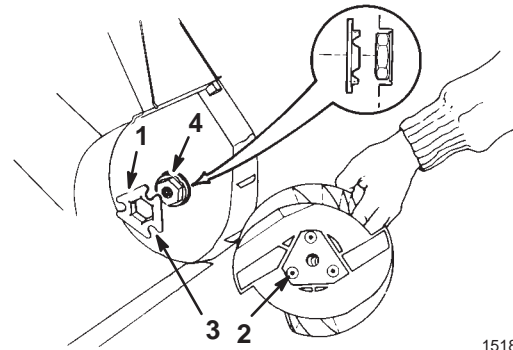

Figure 17
6. Align the left side of the new rotor with the coupler. The three bosses on the rotor end must align with the slots on the coupler (Fig. 17).